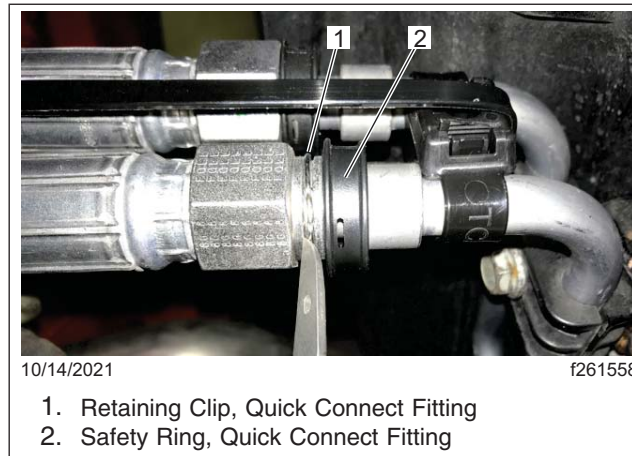

Fig. 5, Confirming the Retaining Clip is Loosely Seated in the Groove
- 12.2 Slide one of the quick-connect fitting safety rings away from the retaining clip; then confirm the retaining clip is seated loosely in the groove. See **Fig. 5**.